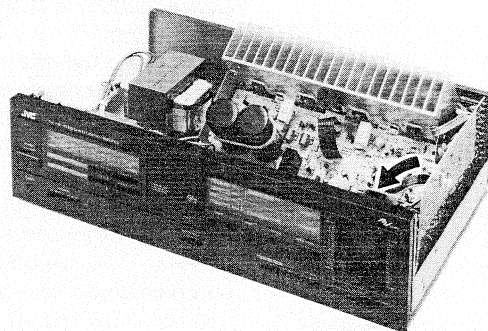

Fig. 3
3. Pull out the main P.C. board in the direction of arrow as shown in Fig. 3.